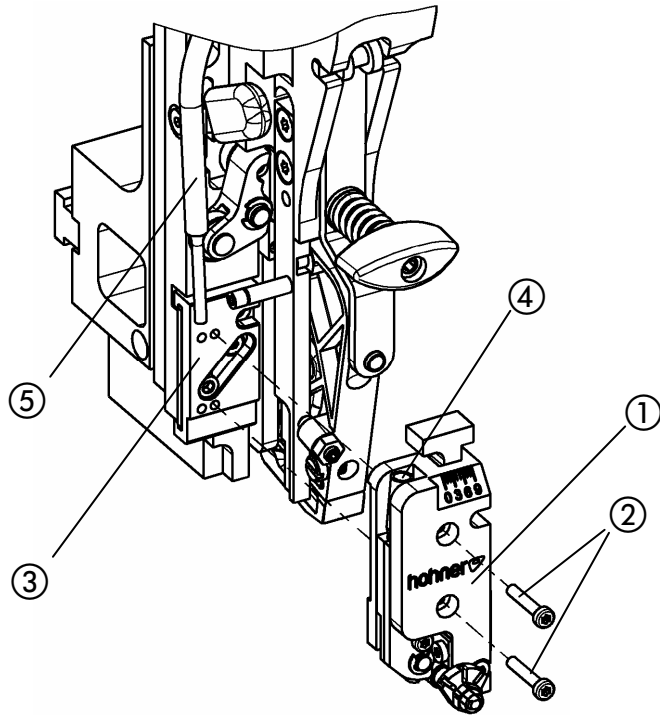
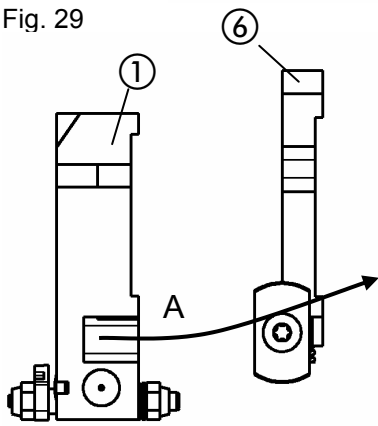
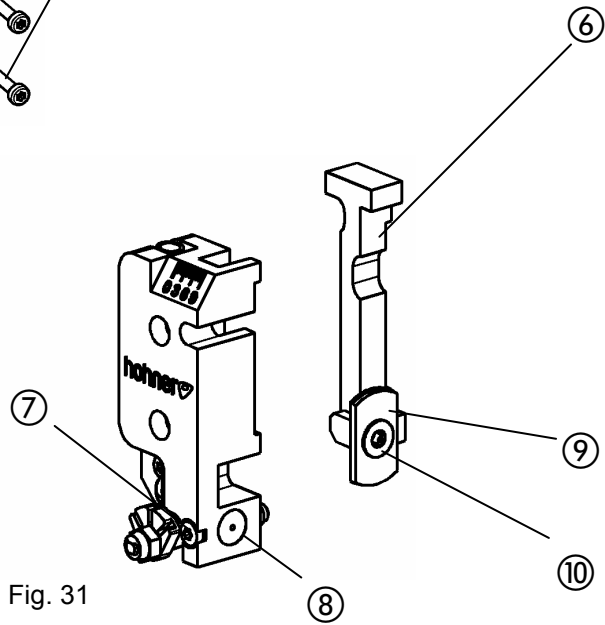
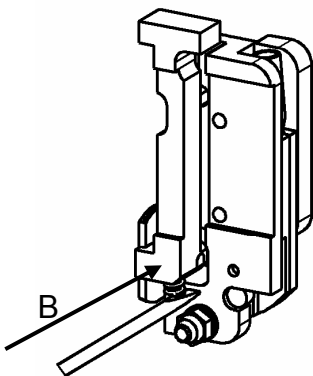

Fig. 29
Fig. 30
Fig. 31
Fig. 32
- Fig. 29 -
- For replacing the knives remove knives box ① by undoing the screws ② at the guide ③.
- Fig. 30 -
- Push the knife slider ⑥ out of the knife box ① (arrow A)
- Fig. 32 -
- Replace knife slider ⑥ in the knife box ① (arrow B), compressing the pressure spring of the knife slider with a screwdriver, and pushing it into the knife box. **Make sure** that the pressure spring is not bent.
- Attach wire guide tube ⑤ to drill hole ④ in knives box.
- Place knives box ① on the guide ③ (please note - right fastening thread for normal staples and left fastening thread for loop-stitching clamps).
- Tighten screws ②.
- Fig. 31 -
- Unscrew fastening screw ⑩ (approx. triple per side, slightly turned, usable).
- Rotate or replace flat knife ⑨ and tighten fastening screw ⑩.